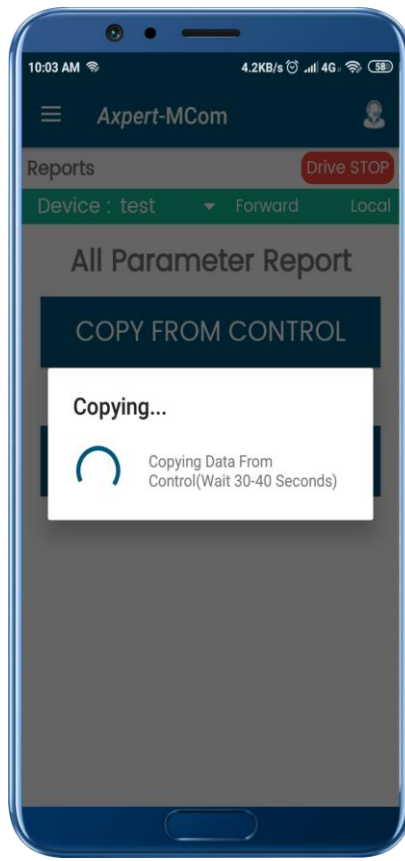
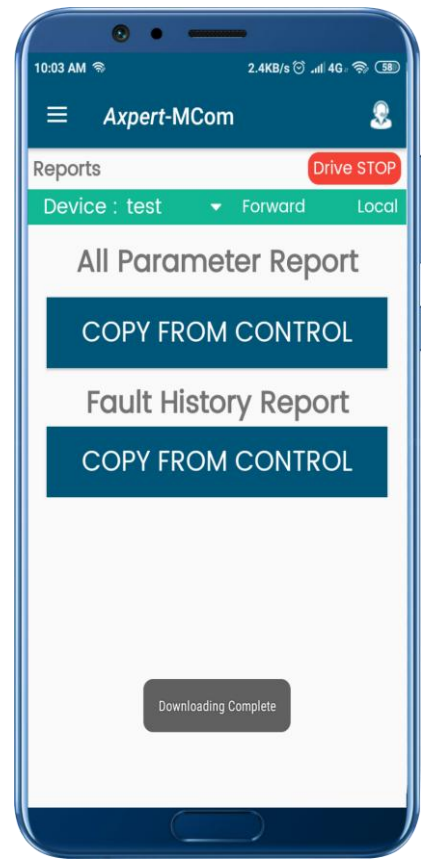

Figure 21: Copy operation in progress
Figure 22: Copy/Download operation completed
- Please wait while application copies the parameters. It takes around 30-40 seconds to complete copy operation (Figure 21). Once the copy/download operation is completed, a confirmation message is displayed (Figure 22).